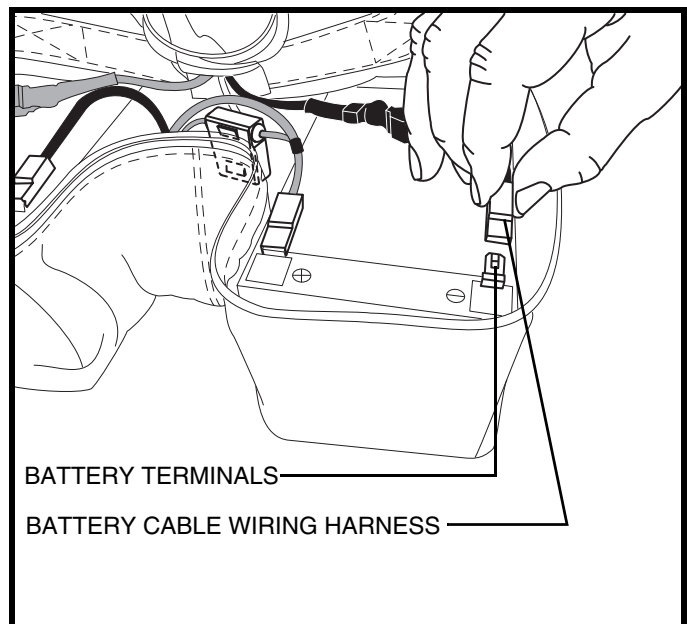

Figure 12. Battery Replacement
3. Disconnect the black (-) and red (+) battery cables from the battery terminals of each battery. See figure 12.